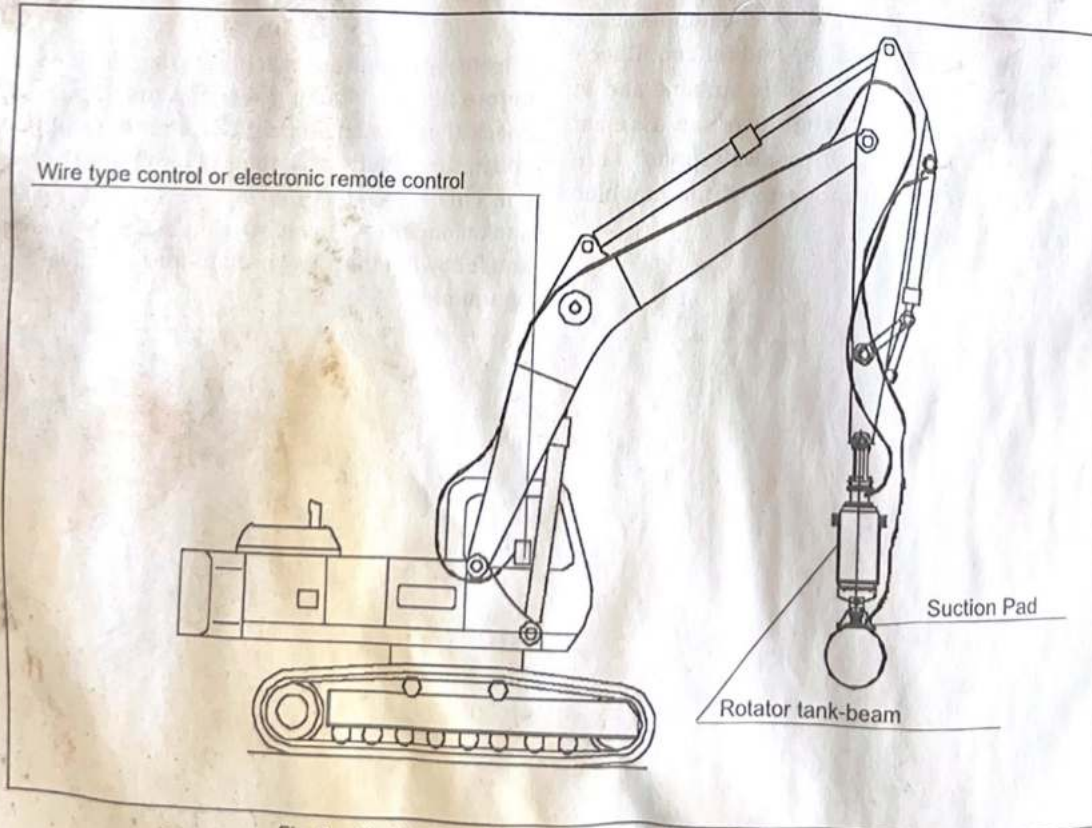
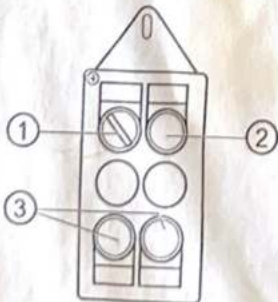
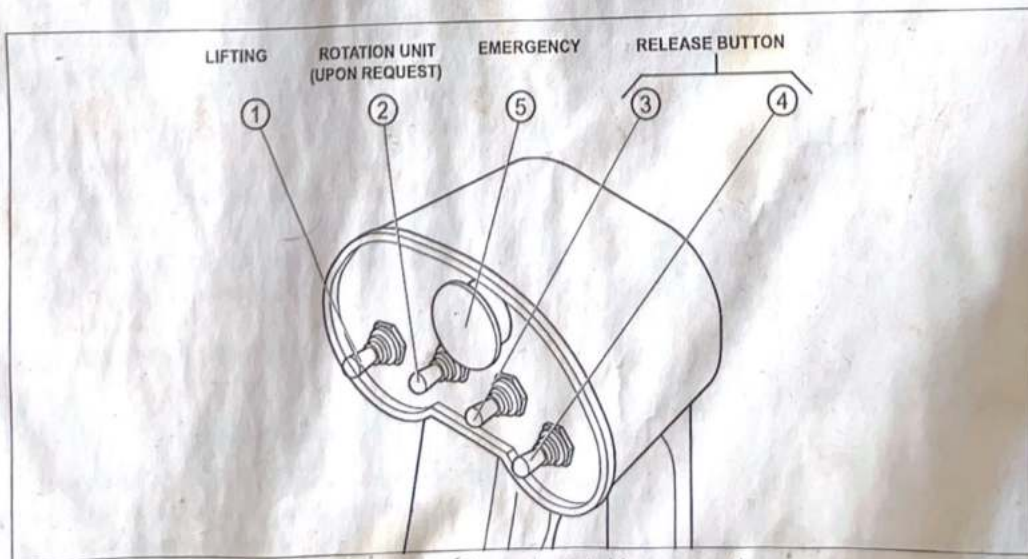

Fig. 9 - Machine configuration including the equipment
Fig. 12 - Wire type control
Fig. 13 - Electronic remote control (upon request)
- Position the control panel inside the receiving machine cabin in a location where the operator can easily operate it without interfering with the receiving machine controls. Let the control cable run out of the cab (Fig. 9) through the supplied runway.
- Turn the switch (det. 1, Fig. 12) on the control panel (Fig. 9) in the ON position. The green light goes on, the red flashing lights on the rotator tank-beam are on and the buzzer triggers.
- Close the suction system of the tank from the outside by simultaneously pressing the 2 red buttons (det. 3, Fig. 12). The red lights go on. For the version featuring an electronic remote control, push the levers det. 3 (Fig. 13) upwards and the lever det. 4 (Fig. 13) downwards simultaneously.
After igniting the engine, simultaneously press the 2 red buttons (det. 3, Fig. 12). The red lights go on. For the version featuring an electronic remote control, push the levers (det. 3, Fig. 13) upwards and the lever det. 4 (Fig. 13) downwards simultaneously.
The pump aspirates all the air from the tank and creates vacuum. When the pressure gauge on the tank shows 0.8 bar (green area), the red flashing lights on the rotator tank-beam and the buzzer go off. Now, the equipment can start operating. Pressing of the emergency button (det. 5, Fig. 13) on the electronic remote control stops all the functions of this control, if an operating malfunctioning occurs.
- Engage the suction button (det. 2, Fig. 12) on the control panel. For the electronic remote control, push the lever det. 1 (Fig. 13) upwards. The tank vacuum is reduced thanks to the air suction effect created by the pad and the seal is squeezed until the suction pad fully adheres to the pipe. The red flashing lights and the buzzer trigger. When vacuum goes back to **-0.8 bar** (pressure gauge arrow in green area), the red flashing lights and buzzer go off and the green flashing lights go on.
- Now, the suction pad has hooked the pipe up. Use the excavator to lift it and bring it to the required position. For further position adjustments, use the rotator by engaging the bucket control lever of the excavator (for the version with a remote control rotation, use lever 2, Fig. 13 - option).
Let the pipe sit on a stable surface. Press the 2 red buttons (det. 3, Fig. 12) in order to release the pipe. For the electronic remote control, push the levers